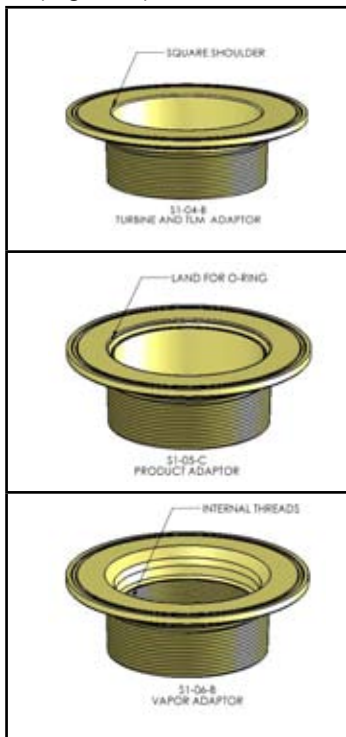

Figure 2: Manway Adaptors
3. Install the 4" bung adaptors and plugs in the tank manway - there are 3 different OneSump manway adaptors (Figure 2).